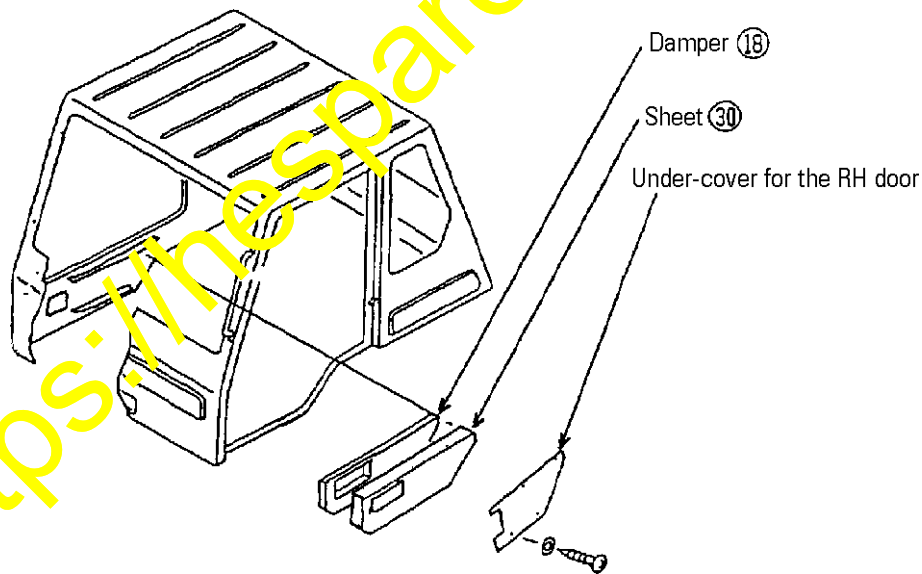

Fig. 4
(3) Installing the prepared parts to the lower section of the RH door of the operator's cab (Refer to Fig. 4.)